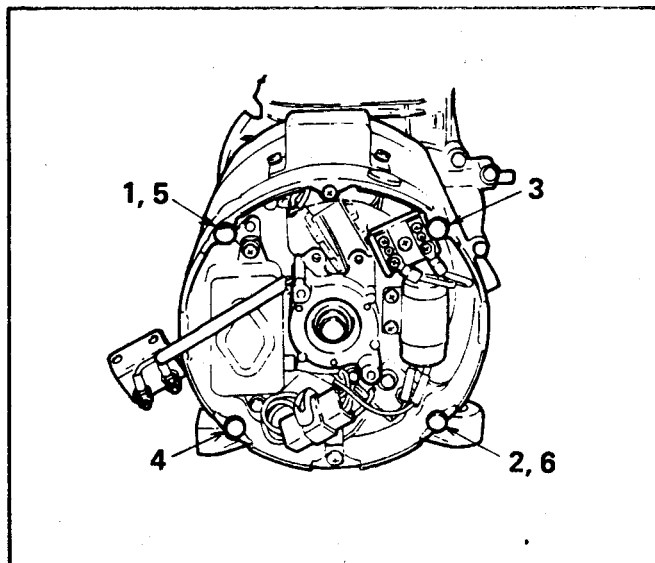

Figure 148
6. Tighten the through bolts in the sequence as shown in Figure 148.